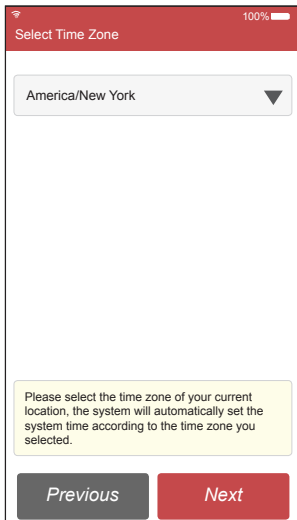

Figure 4-2
2. **Select time zone:** Tap ▼ to select the time zone of your current location, the system will automatically configure the system time according to the time zone you selected. See Figure 4-2.